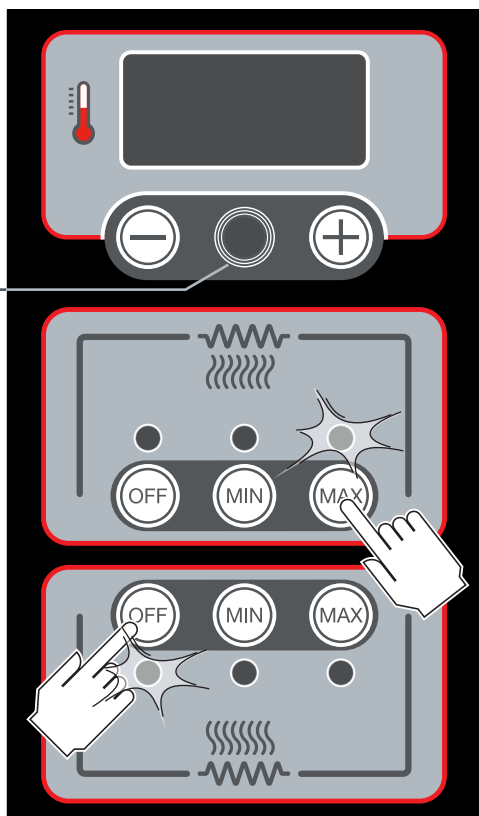

Fig.8.
- set a cooking cycle with the desired parameters: (► **Fig.7.** - **Fig.8.**)
► **Fig.8.**